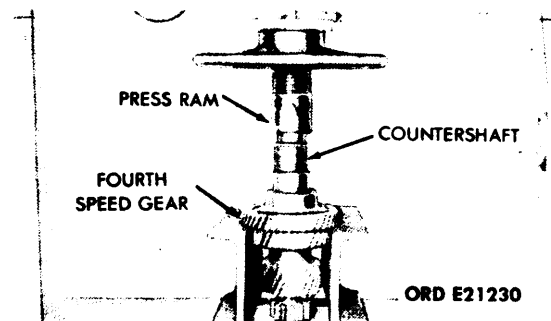

Figure 3-39. Removal of Countershaft Fourth-Speed Gear.
(2) Place into press as shown in figure 3-39. Remove fourth-speed gear snapping and press the shaft. Then remove fourth-speed woodruff key.
(1) Install woodruff key in countershaft at fourth-speed gear position. Coat countershaft at fourth-speed gear bore with a light coating of grease, artillery and automotive (GAA), MIL-G-10924. Place assembly in press, align fourth-speed gear slot with woodruff key and press the gear onto the countershaft. Secure gear in place with a new snapping. See figure 3-39 for positioning of the fourth-speed gear.